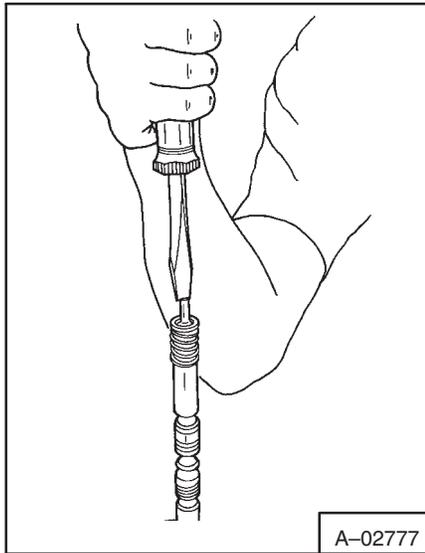

**Fig. 2-11** Removing Spool Cap
3. Remove the detent cap fastening screws (Fig. 2-10) and remove the caps (Fig. 2-11).